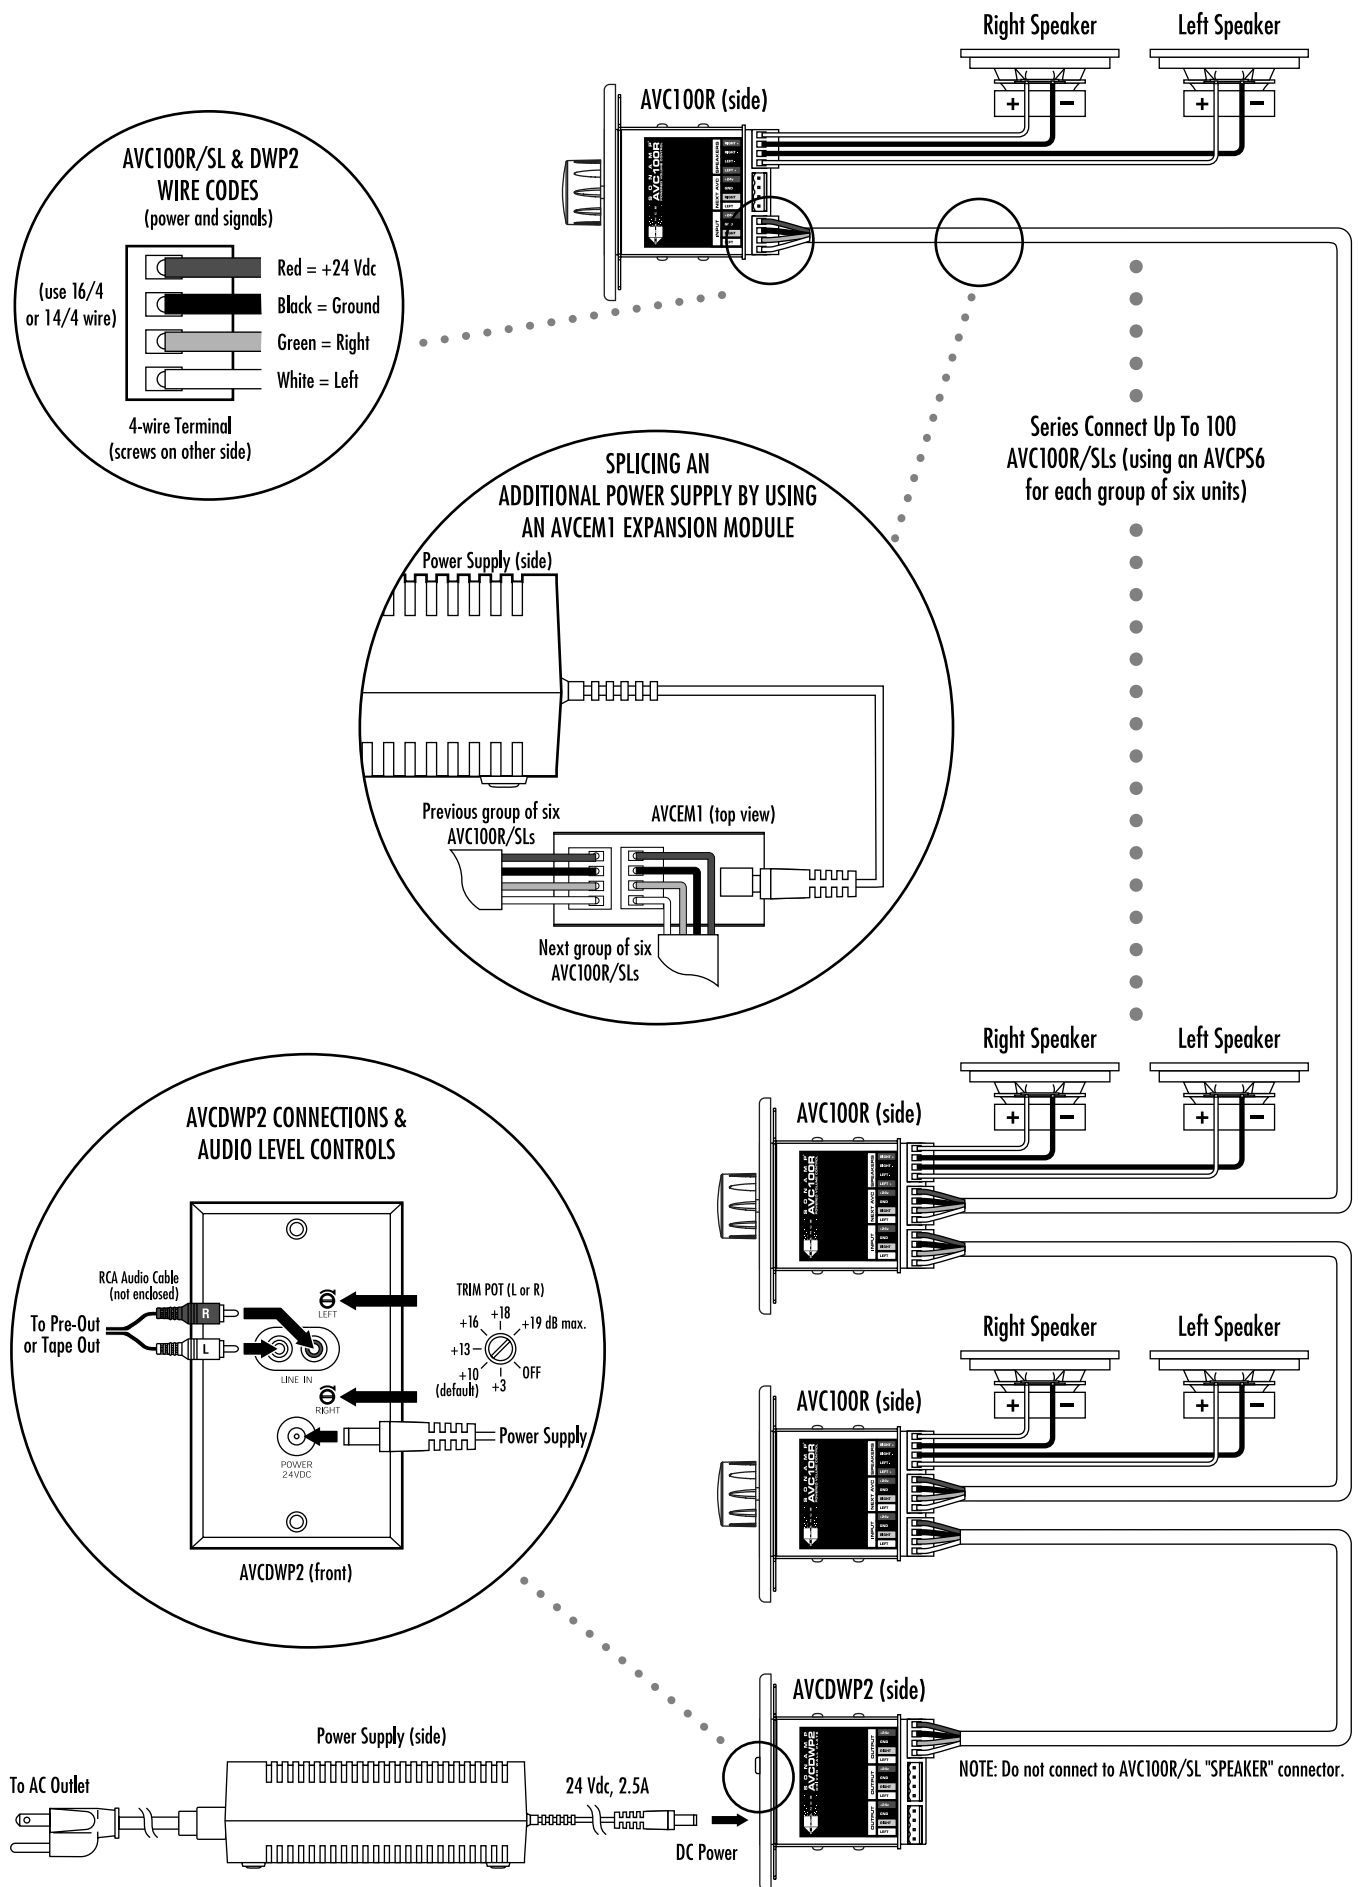

Figure 2 – Example of an AVC system with daisy-chain (series) wiring
The DWP2 is a Driver Wall Plate for audio distribution of a connected stereo source and routing of AVC power from a connected recommended power supply. The unit fits into a standard single-gang plaster ring. Three parallel four conductor outputs with quick disconnect terminals are provided. One DWP2 may be used with up to 100 AVC100R/SLs via standard 16/4 or 14/4 wire. The DWP2 also provides installer-adjustable gain controls for setting the maximum system volume level (see the detail in Figure 2 on the next page).
Study the examples in Figures 2 through 3 (on the next two pages) to learn how to interconnect systems using these wiring schemes.
1. One (1) recommended power supply +24 Vdc powers up to six (6) AVC100R/SLs. If additional AVC100R/SLs are required in the installation, connect one (1) recommended power supply for each additional group of six (6) AVC100R/SLs (see detail in Figure 2 on page 2).
2. One (1) AVCDWP2 Driver Wall Plate can drive a system of up to 100 AVC100R/SLs. Beyond that, you will need to divide the system so it is driven from two or more AVCDWP2s.
The AVCDWP2 Driver Wall Plate includes two trim pots for individual adjustment of the system's left and right audio channels (see detail in Figure 2 on page 2). At the factory, both trim pots have been set for +10 dB gain on all three sets of outputs. However, the trim pots provide an adjustment range from OFF (full CCW) to +19 dB (full CW).